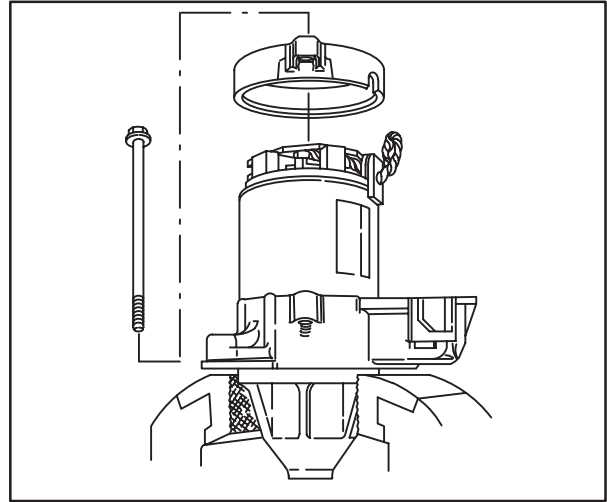

Fig. 47
8. Install end cap, **Fig. 47**. Torque thru bolts to **70 in. lbs. (8 Nm)**.